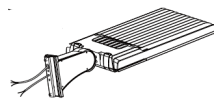

Fig. 6
2. Install the bracket on the fixture, then cover the access cover and tighten it (Fig. 6).